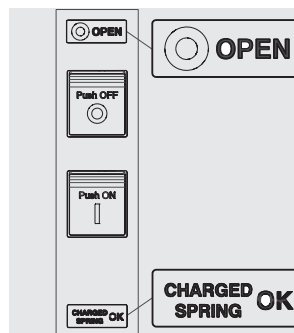

Figure 32
2. Circuit-breaker open with springs charged (see Figure 32).